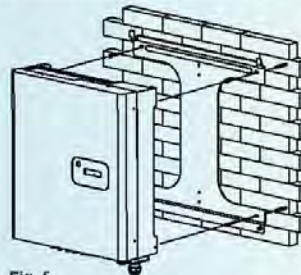
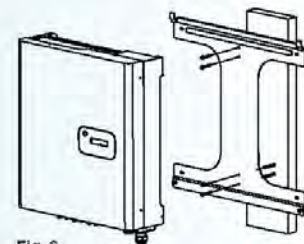

Fig. 5
Fig. 6
- You can use the four oblong holes provided in the four corners of the mounting frame (Fig. 5), or the four round holes aligned with the vertical axis of the mounting frame (Fig. 6).
- Install and mount the mounting frame using the four mounting screws (Fig. 5 or Fig. 6).